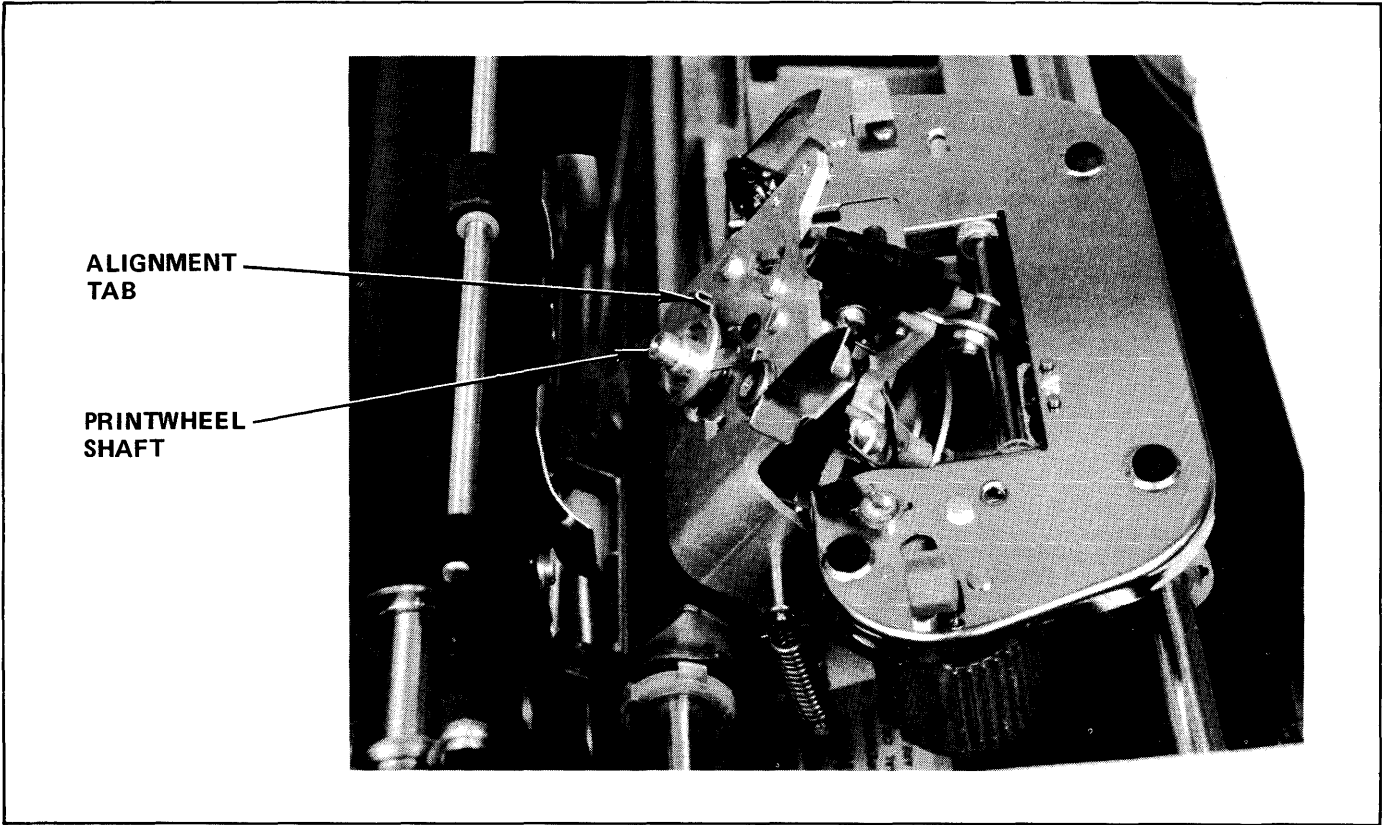
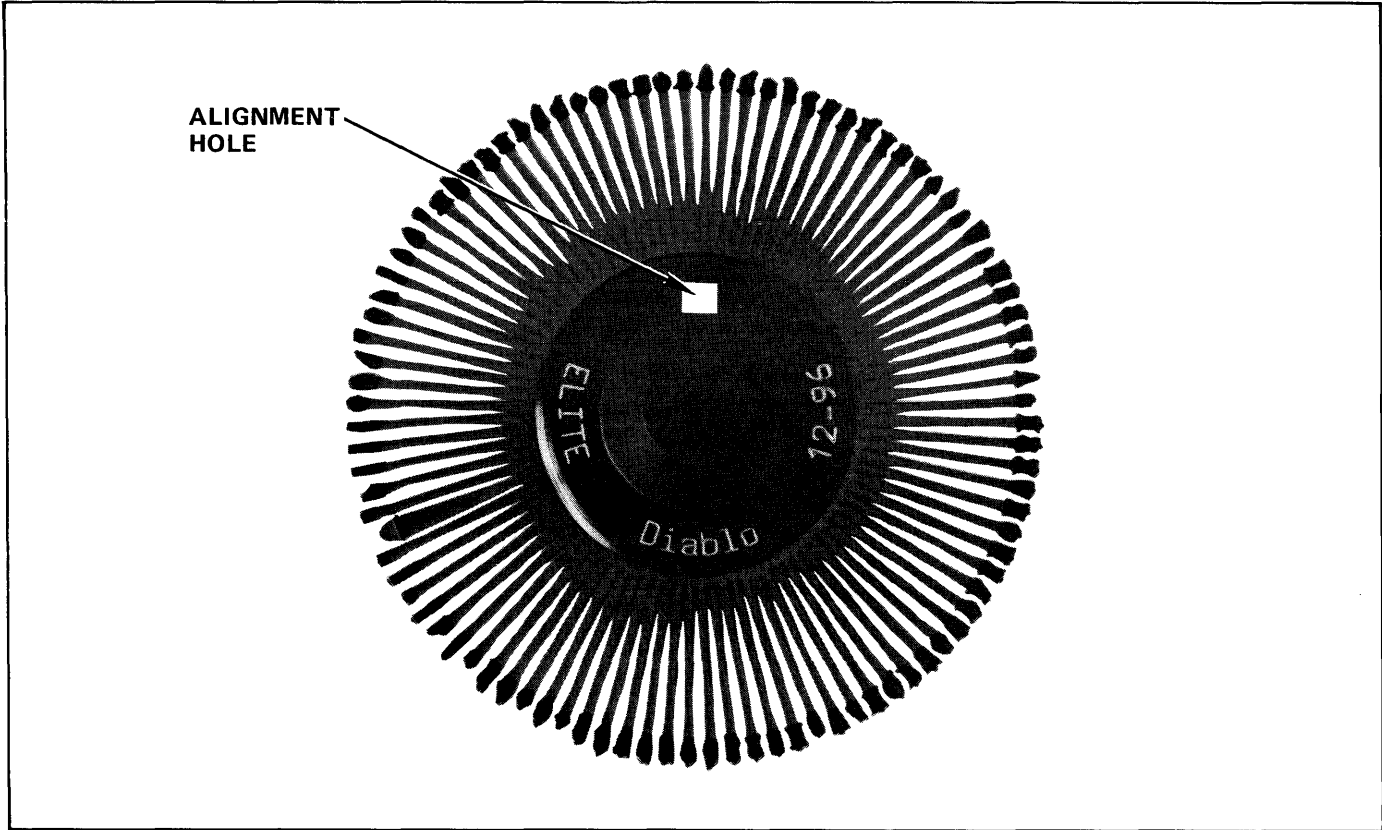

Figure 2-11. Printwheel Installation
Figure 2-12. Printwheel
- (5) Remove the new printwheel from its case and position it over the printwheel shaft (Figure 2-11), rotating the wheel until its alignment hole (Figure 2-12) is lined up with the shaft's alignment tab (Figure 2-11).
- (6) Press the hub of the wheel firmly to lock it in place.
- (7) Push the carriage back into position for printing. It will snap into place.
- (8) Replace the ribbon cartridge.
- (9) Replace the access cover.